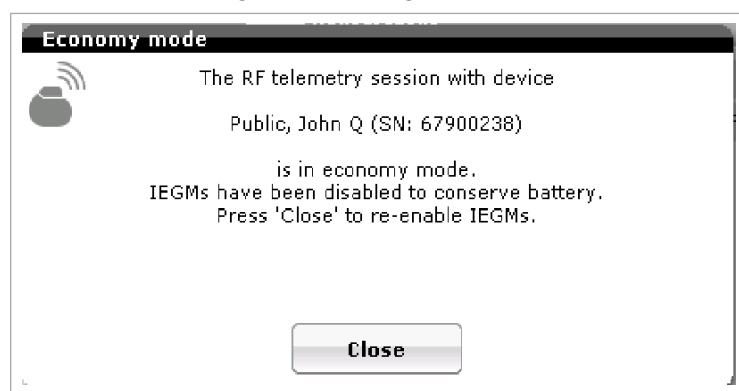

Figure 55: Economy mode message
When the Economy mode screen appears, the patient name will be displayed in the dialog box. In the example shown in Figure 55, “Patient name” and/or device serial number appears. This message prevents potential confusion if more than one patient is in distance of the programmer.
- After 3 minutes without input, SafeSync Telemetry switches to the economy mode. In order to re-establish telemetry from the economy mode, select “Close” in the pop-up window with the patient’s name and/or device serial number as shown in Figure 55. To conserve the device battery, consider closing the Economy mode box, which ends the Economy Mode, only when you will make a change in the programmer interface.